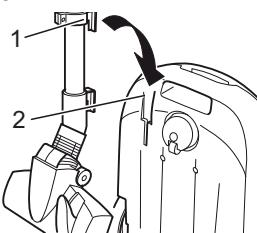

Fig. 17
■ For **storage**, you can hang the stow-away hook (Fig. 17/1) into the stow-away hook mount (Fig. 17/2) below on the cylinder vacuum cleaner.